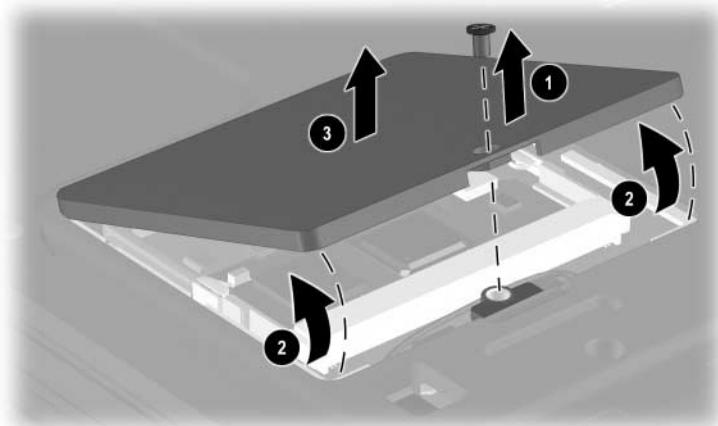

Figure 5-10. Removing the Mini PCI Communications Slot Cover
3. Remove the PM2.0 × 5.0 screw ① that secures the mini PCI compartment cover to the base enclosure (Figure 5-10).
4. Lift the front edge of the cover and swing it back ②.
5. Remove the cover ③.